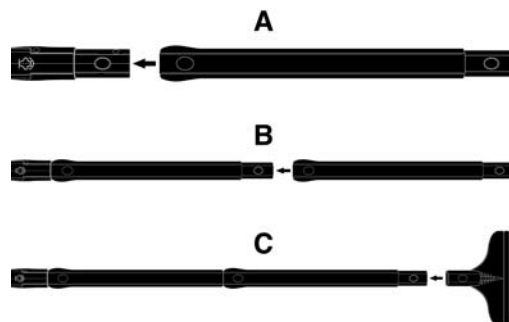

FIGURE 2
2. While still depressing lock/release button, slide first Extension Wand over this button, so that circular hole in Wand aligns with lock/release button (FIGURE 2-A). Once lock/release button and circular hole are properly aligned, button should *click* through hole and into place.
3. Repeat Steps 1 & 2, only this time depress circular lock/release button on other end of first Extension Wand, then slide second Extension Wand over it (FIGURE 2-B).
4. Repeat Step 3, only this time depress circular lock/release button on other end of second Extension Wand, then slide desired accessory over it (FIGURE 2-C).